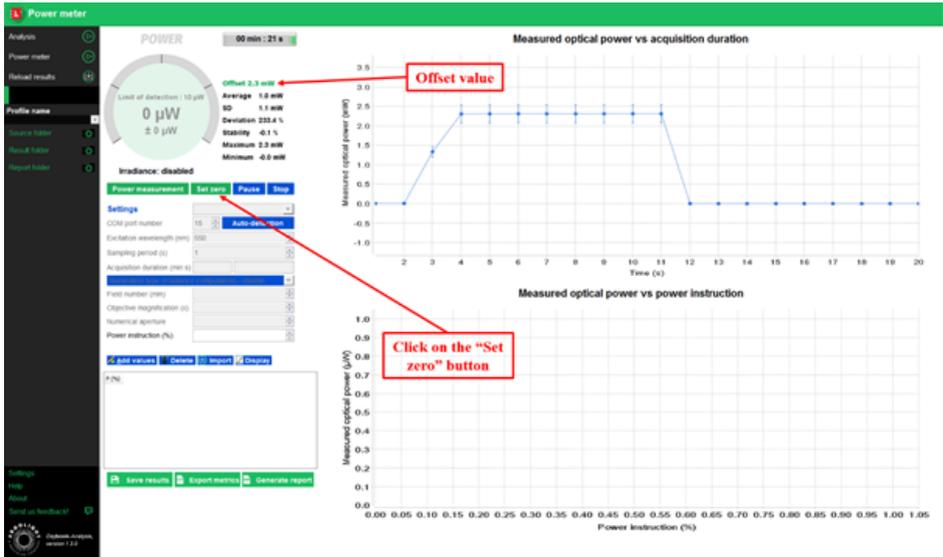

Fig.33: Offset option to subtract the optical power from any other contribution than the light source to be measured.
- If you work in a room with ambient light, click on the “Set zero” button to set the measured power at 0, before proceeding to optical power measurements of light sources (cf. Figure 33).